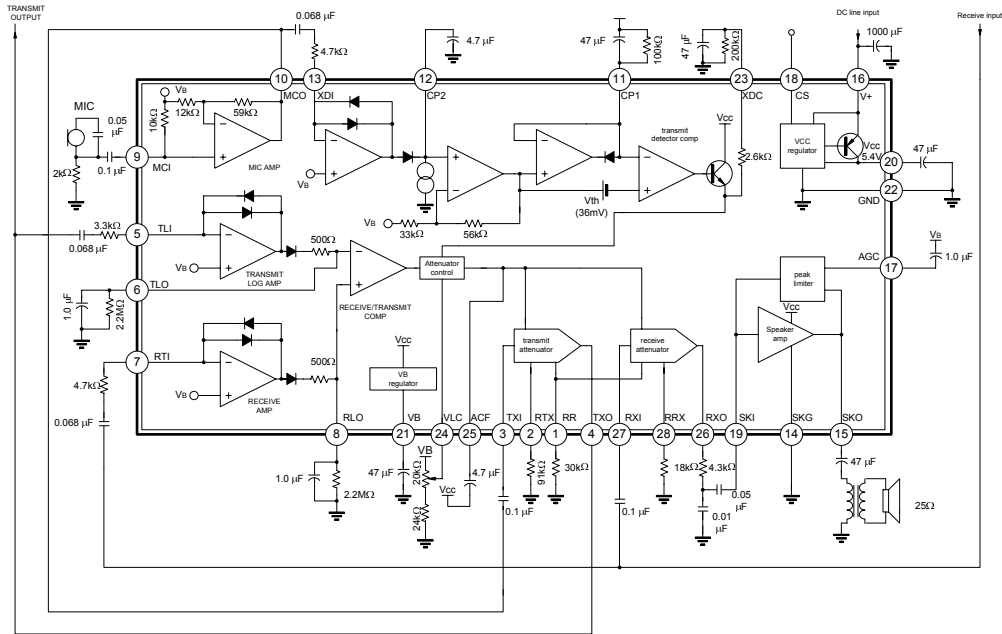

Fig 1 Test circuit
■ ELECTRICAL CHARACTERISTICS (Referred to Fig.1)